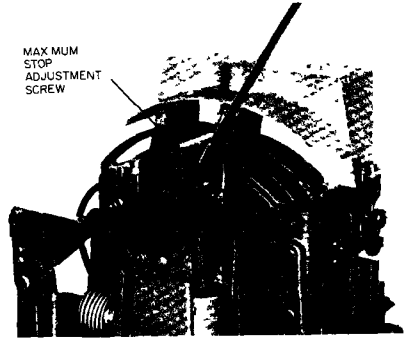

FIGURE 13 - Maximum Stop Adjustment
26. Apply maximum input to gain control connection E4 and adjust maximum stop (Figure 13) to obtain approximately 1/16-inch clearance between maximum stop screw and maximum stop bracket.